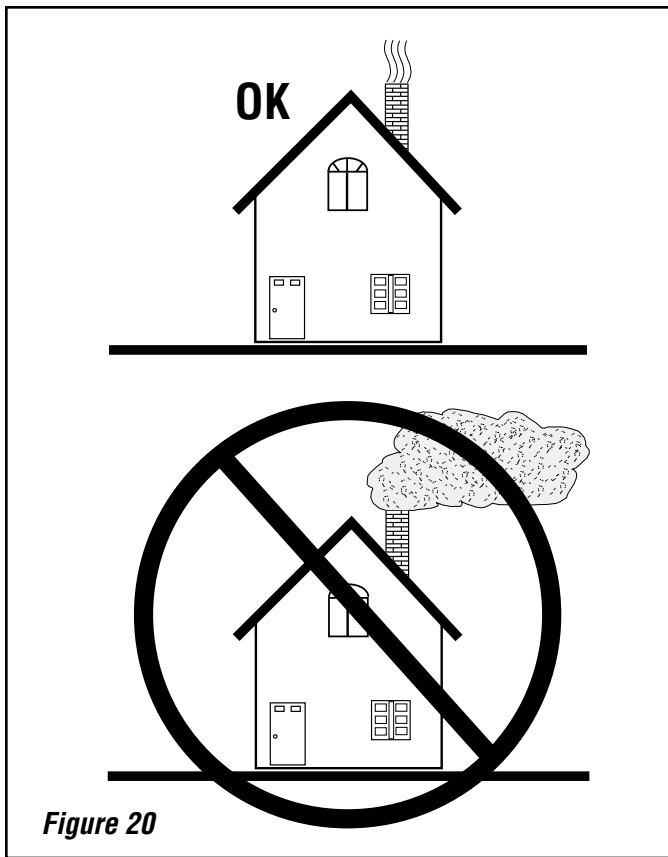

Figure 20
7. For best results, use smaller pieces of wood and light the fire from the top of the kindling pile to get the appliance temperature very high before loading larger wood for sustained burns. If necessary, crack the door to allow ignition of the fuel charge. Now you can add larger pieces of wood and after several minutes of high burn, set the left control for the desired heat output. Check the exhaust in about 15 to 20 minutes (see *Figure 20*). Large amounts of smoke indicate an improper burn setting (either too high or too low). Adjust and recheck in 5 to 10 minutes.
6. Go outside and check your chimney. More than a very small amount of smoke indicates wasted heat, creosote build up and pollution (*see Figure 20*).